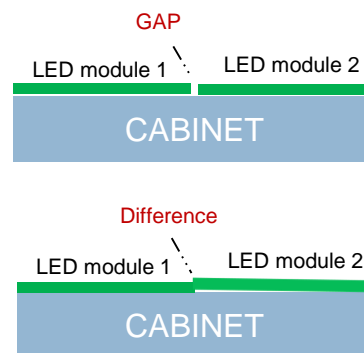

Fig.2 Gap/Difference between Modules
- ② Check whether gap, differences occur between each module. (Fig.2)
- ③ If gap occurs, use module with hand from the outermost corner.
- ④ If differences occur, disassemble low LED module, and spin the Holder-Magnet using tools to adjust the height.